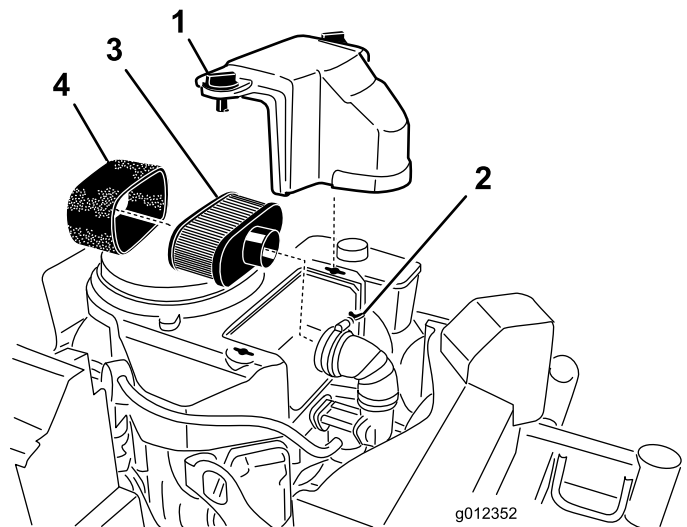

Figure 21
3. Clean around the air cleaner to prevent dirt from getting into the engine and causing damage (Figure 21).
4. Unscrew the cover knobs and remove the air cleaner cover (Figure 21).
5. Unscrew the hose clamp and remove the air cleaner assembly (Figure 21).
6. Carefully pull the foam element off the paper element (Figure 21).
1. Do not clean the paper filter. Replace it (Figure 21).
1. Carefully slide the foam element onto the paper air cleaner element (Figure 21).
2. Place the air cleaner assembly onto the air cleaner base and secure it with the 2 wing nuts (Figure 21).
3. Place the air cleaner cover into position and tighten the cover knob (Figure 21).